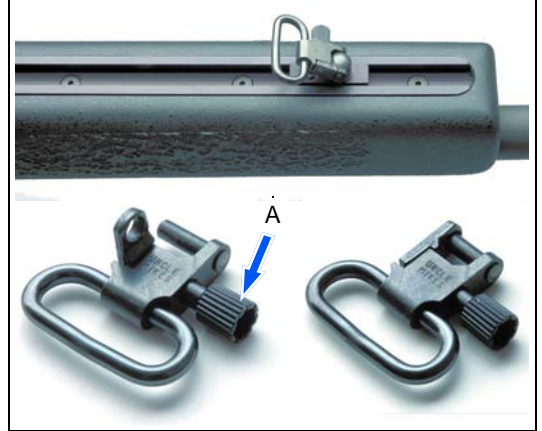

Abb. 17, Sling swivel bushing
1. Unscrew the knurled knob **Fig. 17/A** to the left.
Corresponding figure, see Fig. 17.